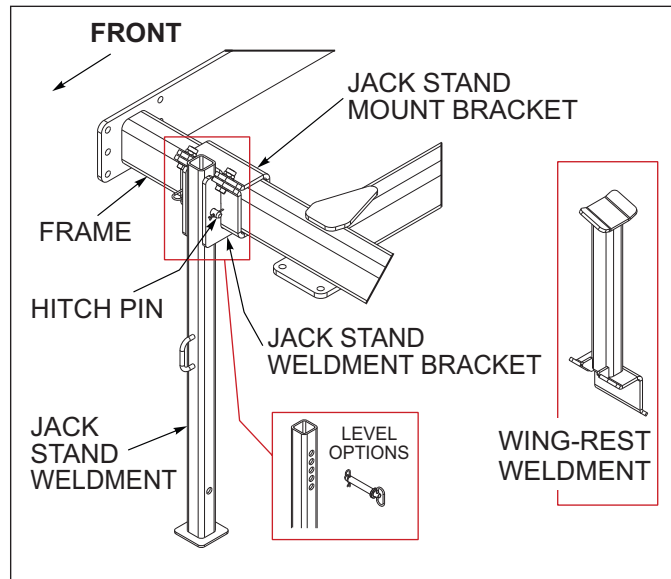

Figure 3-1: Front Jack Stand
2. Insert the Jack Stand Weldment through the bottom of the Jack Stand Weldment Bracket with the handle facing out and pin at desired level (top five holes), with 3/4 x 4 Hitch Pin and hair pin. (See Figure 3-1.)
4. With the Jack Stand Weldment Bracket positioned on the bottom side of the front Frame, (clamp facing out), attach the appropriate Wing-Rest Weldment using 3/4-10 x 2-1/4 Bolts, 3/4 Flat Washer and 3/4-10 Locknut. (The Wing-Rest Weldments have right hand and left hand designations. The left hand Wing-Rest Plate Stops slope down toward the left and the right hand Wing-Rest Plate Stops slope down toward the right. See Parts Manual for Wing-Rest Weldments according to model number.) (See Figure 3-1.)